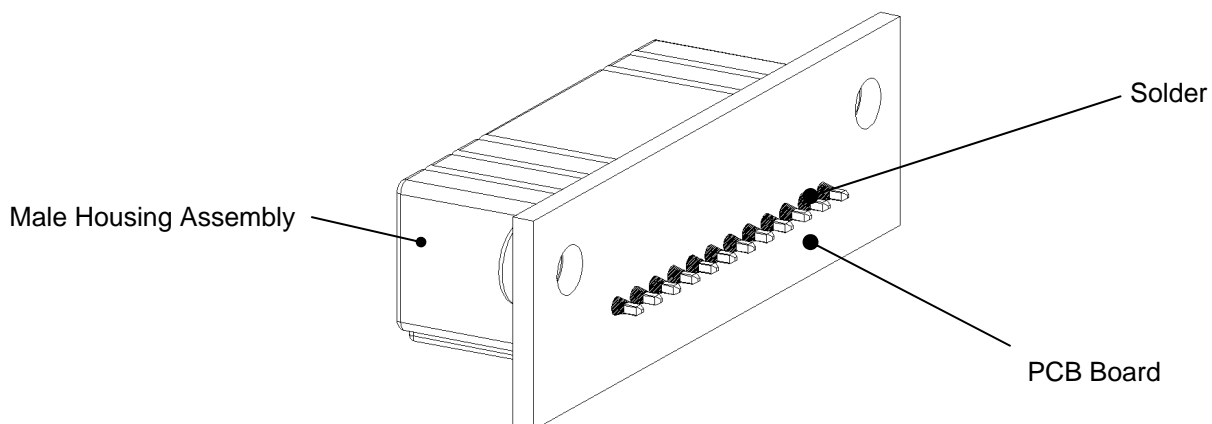

Figure 26. Placing the Male Assembly on the PCB Board (e.g. 12 positions)
- e) Solder the male pins on the PCB board. See Figure 26.